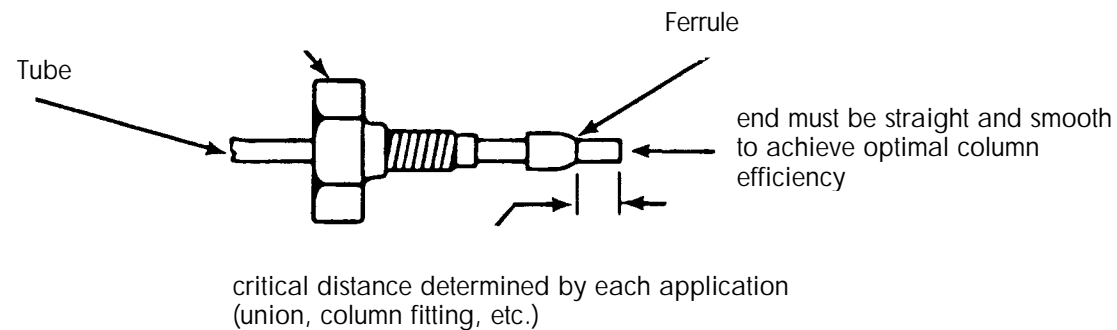

Figure 2-5 Compression Screw Assembly
3. Assemble the outlet connection from the column to the Waters 486 Detector inlet on the front panel. Slide the compression fitting over the tube followed by the ferrule, large end over the taper first (see Figure 2-5).
Figure 2-5 illustrates compression screw connections.